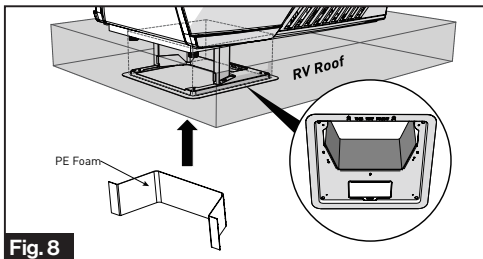

Fig. 8
- Peel to remove the release paper from the PE foam, overlap the sticky side over all gaps and compress to seal and insulate the entire section. (Fig. 8)